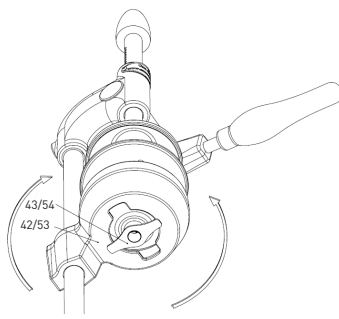

Figure 8
- Turn the Bowl (43-54) in directions as in Figure 8 and be sure that the Bowl will be in the position as in Figure 8.